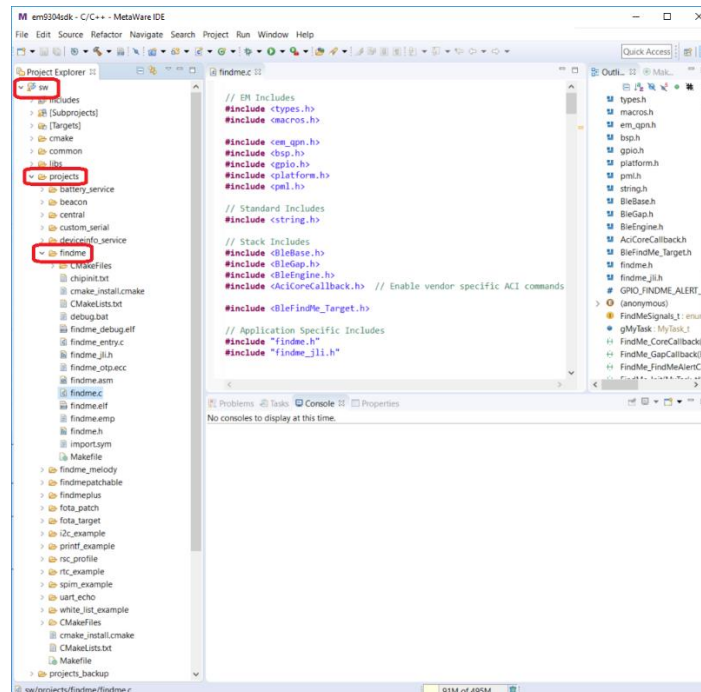

Figure 17 Main window with workspace files shown.
14. The workspace and projects setup is now complete, and the main Metaware IDE Lite window will be displayed. In the Project Explorer pane, expand the **sw** folder then the projects folder to reveal example projects. The FindMe example application is shown in Figure 17.